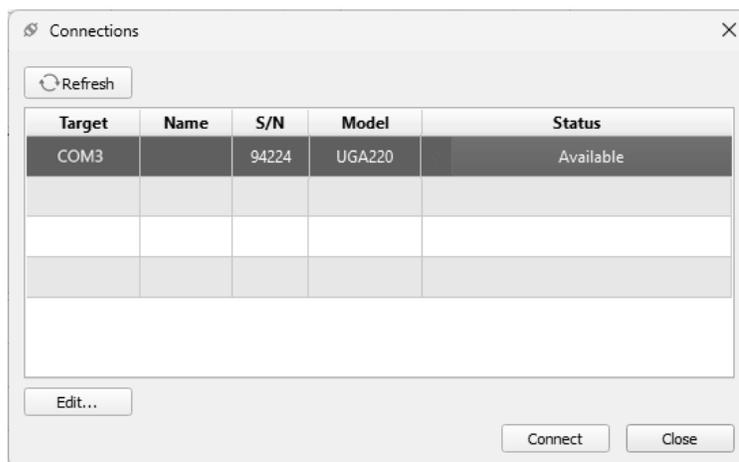

Fig. 2-4. Screenshot of ‘Serial’ connection in the Connections dialog box.
5. Launch the app using the “UGASoft” link on the desktop (if added in the installation) or from the program group “SRS RGASoft”. The Connections dialog box will appear and automatically search for the UGA. Figure 2-4 shows a typical serial connection in the Connections dialog box.